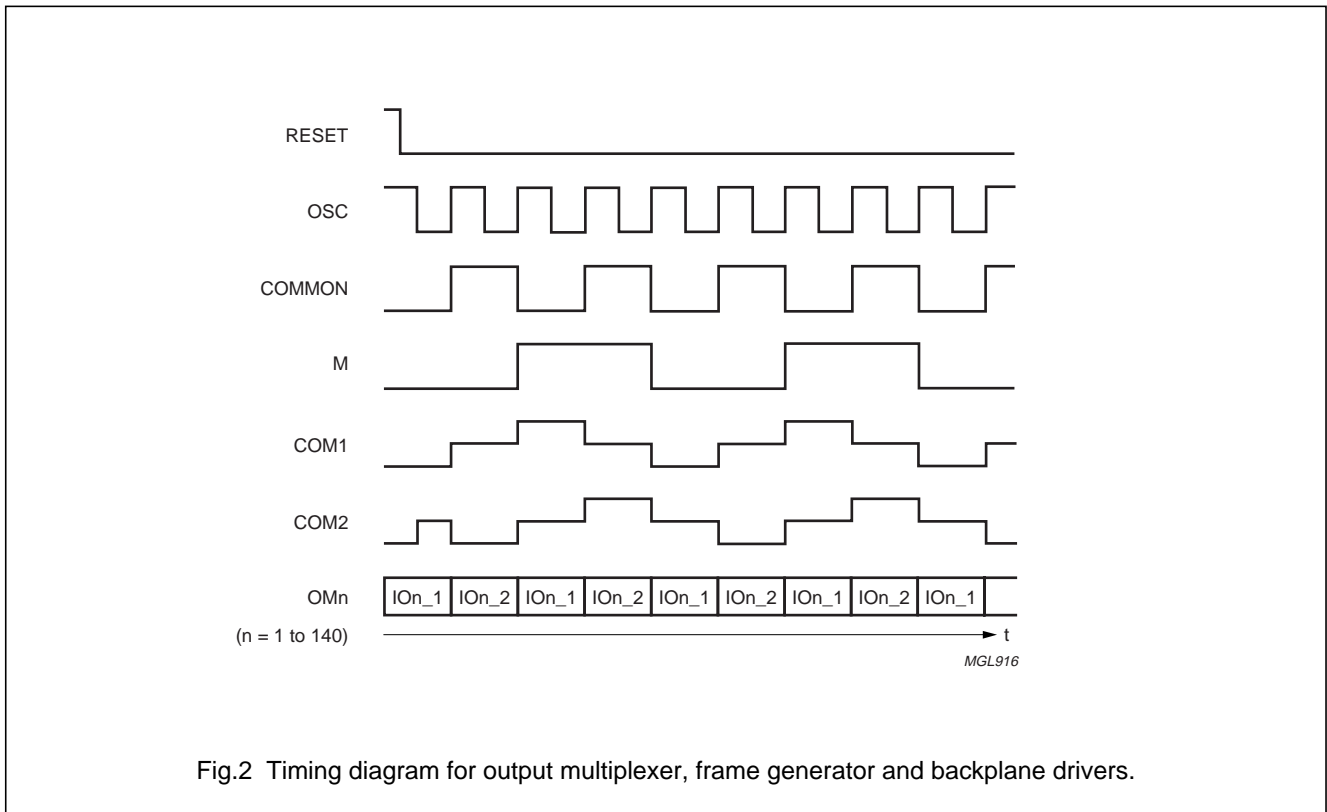

Fig.2 Timing diagram for output multiplexer, frame generator and backplane drivers.
The backplane drivers generate two output signals called COM1 and COM2 which connect directly to LCD backplane 1 and to backplane 2 respectively. These signals have 3 voltage levels called V_{DD}, V_{MID} and V_{SS}, where V_{SS} = 0 V and V_{MID} = 1/2V_{DD}. V_{MID} is the LCD bias voltage generated by the LCD bias generator. Figure 2 is a timing diagram for the output multiplexer, frame generator and backplane drivers.
- The backplane driver outputs (COM1 and COM2) are 0 until the first falling edge of OSCI (see Fig.2).